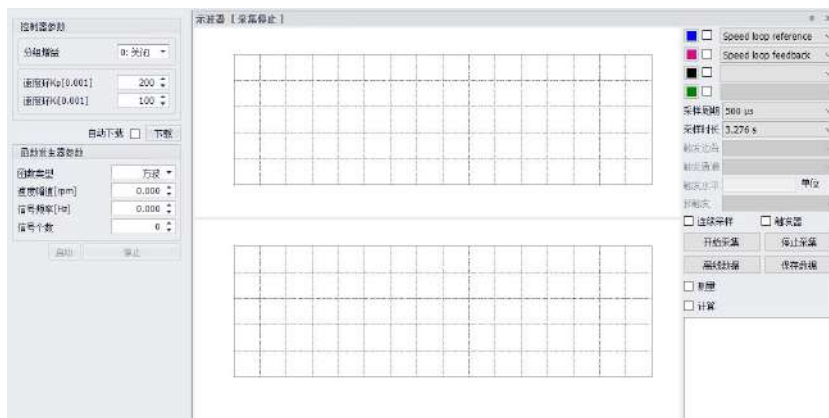

Figure 4-19 Velocity loop debugging interface
1. Select **"Velocity Loop"**. The debugging interface of the velocity loop shows as in Figure 4-19: